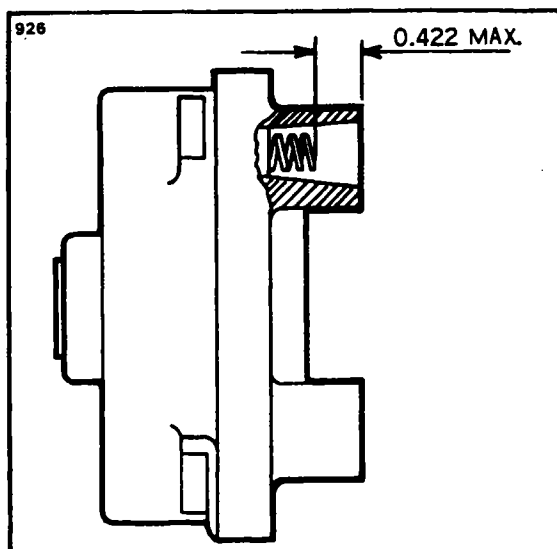

Figure 8-13. Contact Spring Inspection
- a. Inspect distributor block contact springs. Top of spring must not be more than 0.422 inches below top of tower. (Refer to Figure 8-13.) If broken or corroded, they should be replaced.